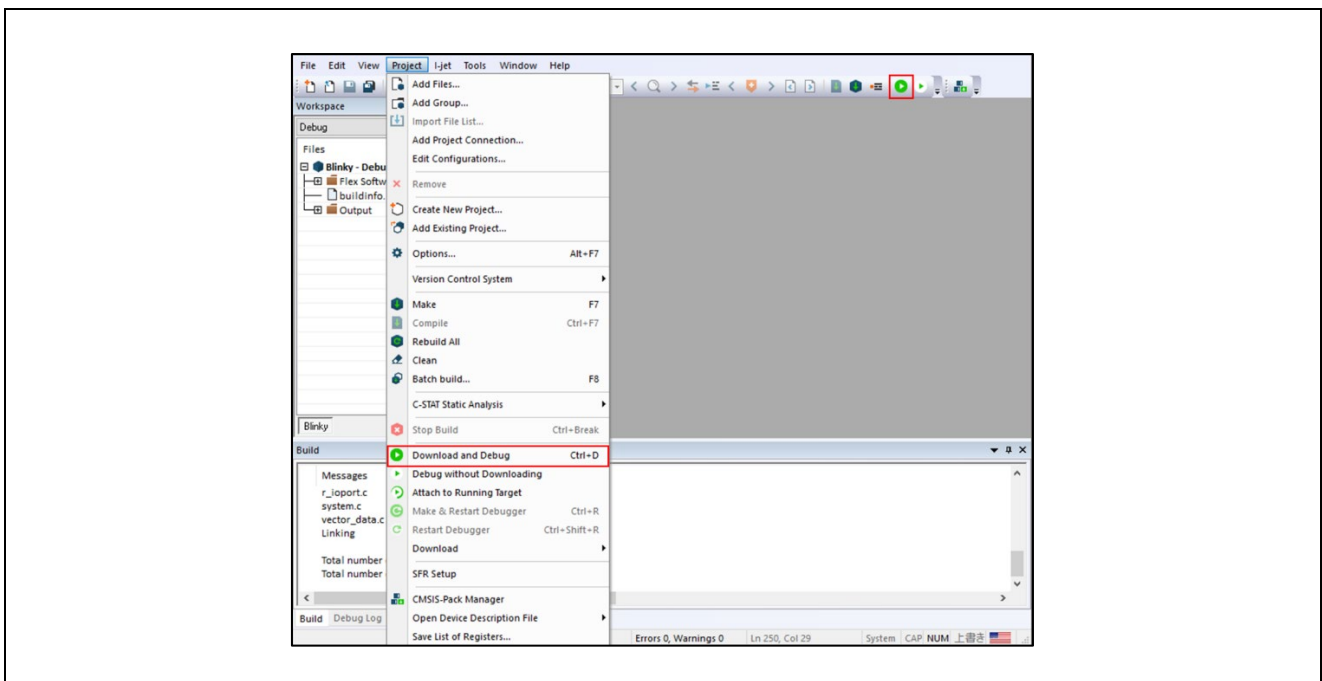

Figure 120. Download and Debug Button
3. Download of the primary project with procedure 5.3.4 Download & Debug the Project as shown in Figure 120.